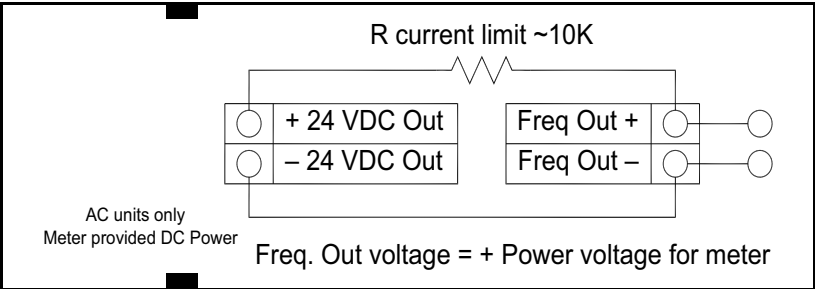

Figure 41: Isolated Frequency Output Using Meter-Provided Power Supply
- For AC powered meters only, use the internal 24 VDC power supply (see Figure 41 on page 43). Use this option if the voltage of the frequency output is the same as the voltage supplied to the circuit.